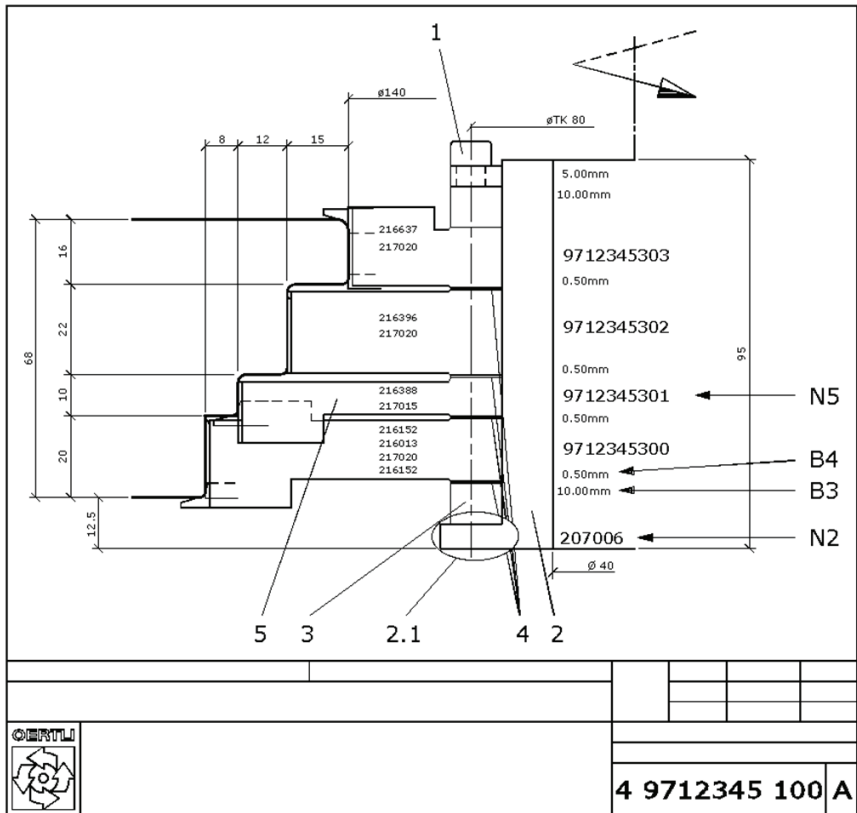
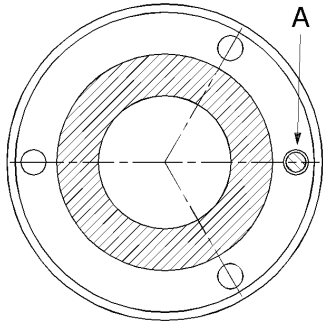

Fig.1
Fig.2
(see Fig. 1 and Fig. 2)
1. Lay-out the assembly drawing included with the tool kit. Identification is with the drawing number which is found in the bottom right-hand corner. Fig. 1 shows a drawing with the identification number 4 97 1234 100 A. The tool set is identified with the drawing number. However, the prefix indicating the drawing format and the last letter indicating the drawing's index are left-off. For example, in Fig. 1, the tool set is identified with the numbers 97 12345 100.
3. Loosen the screws (1) with the Allen key and remove them completely.
4. Now all the spacer components (3, 4) and all cutters (5) can be taken-off from the clamping sleeve (2).
7. Mount spacers and cutters, as shown on the assembly drawing, on the corresponding clamping sleeve (2). The part number "N2", identifying the clamping sleeve, is engraved on it. During assembly, take special care to align mounting holes in the cutters to mounting holes in spacers and shims (Fig. 2). The positioning pin securely fixed in the clamping bush, must engage in the hole (A) of spacers or cutters.
8. The individual cutters are marked by identification numbers. The cutter (5), shown in the assembly drawing belongs the part number "N5." This number is engraved on the cutter and is referred to in the drawing. The spacer components have their thickness engraved in millimetres. The thickness of them (B3, B4) is specified on the drawing and refer to the spacers (3), respectively shims (4).